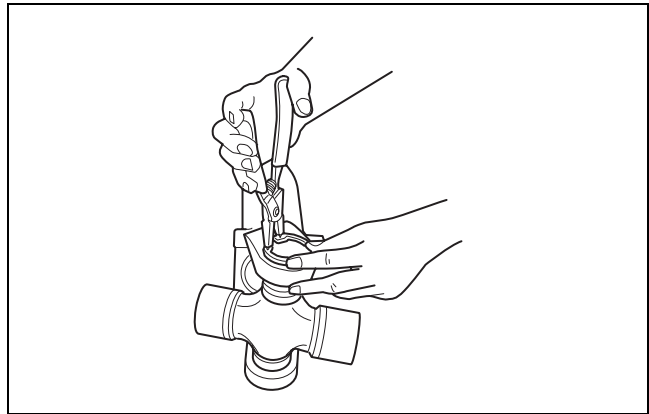

Figure 8.34
8. Use snap ring pliers to install the second snap ring into the snap ring groove. Figure 8.34.